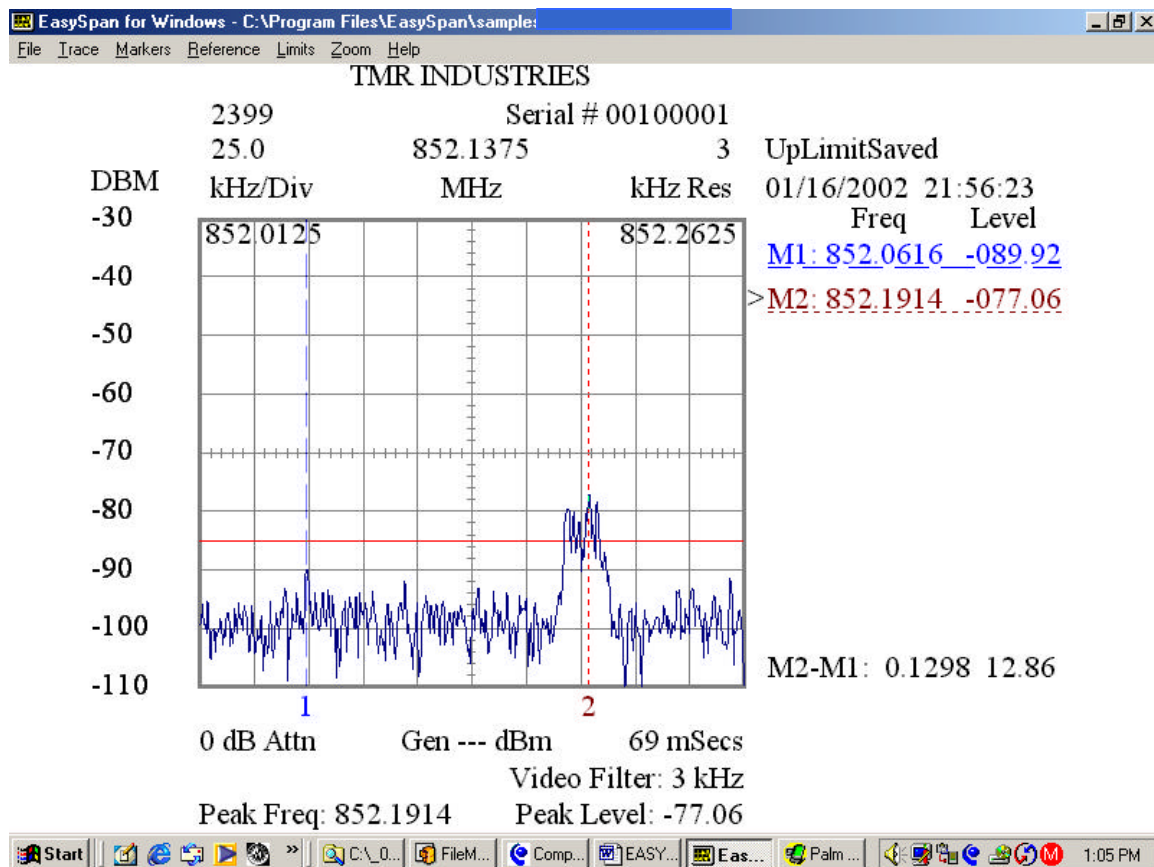

Fig. 3
5.9 Fig. 3 is a typical trace saved by the above macro. It indicates a signal of concern exceeding the horizontal -85 dBm limit line, at marker number two (M2 = 852.0616 MHz, -77.06 dBm). Without an indication of having an active channel at the center of the screen, there is no reason for concern. If an active channel **were** present, the engineer would take action to move his channel to another frequency or ask his neighbor to select another channel.